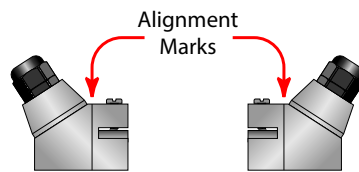

Figure 7: Transducer alignment marks
2. Orient and space the transducers on the pipe to provide optimum reliability and performance. Measure the spacing between the transducers between the two alignment marks on the sides of the transducers. These marks are approximately 0.75 inches (19 mm) back from the nose of the RZ, NZ, YZ and HZ transducers, and 1.2 inches (30 mm) back from the nose of the LZ, YZ transducers. See *Figure 7*.